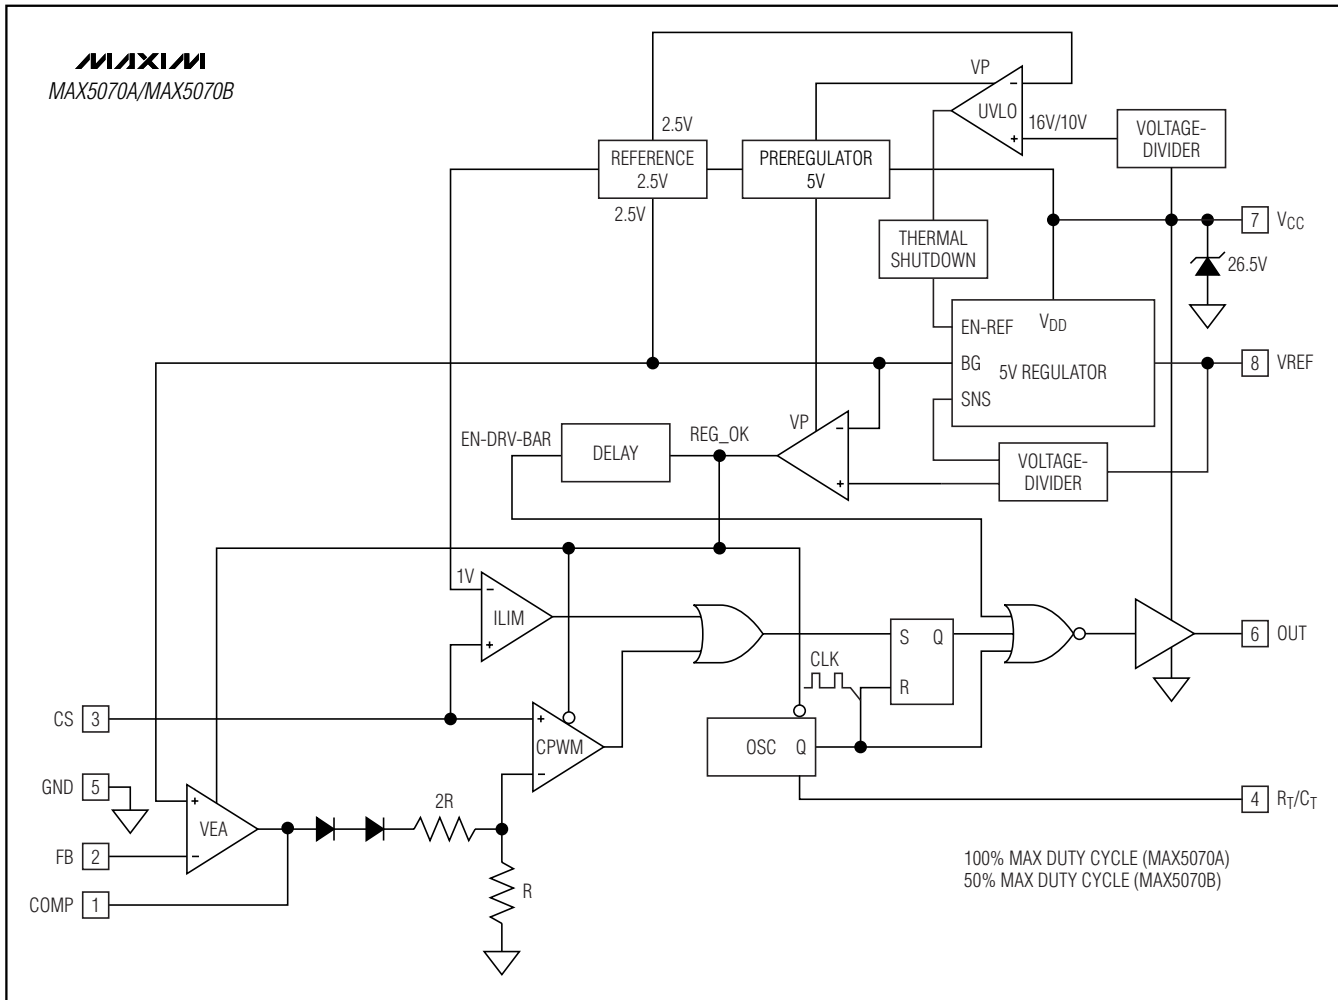

Figure 1. MAX5070A/MAX5070B Functional Diagram
versions with a feedback input (FB) and internal error amplifier. The MAX5071A/MAX5071B include bidirectional synchronization (SYNC). This enables multiple MAX5071A/MAX5071Bs to be connected and synchronized to the device with the highest frequency. The MAX5071C includes an ADV\_CLK output, which precedes the MAX5071C's drive output (OUT) by 110ns. Figures 1, 2, and 3 show the internal functional diagrams of the MAX5070A/MAX5070B, MAX5071A/MAX5071B, and MAX5071C, respectively. The MAX5070A/MAX5071A are capable of 100% maximum duty cycle. The MAX5070B/MAX5071B/MAX5071C are designed to limit the maximum duty cycle to 50%.